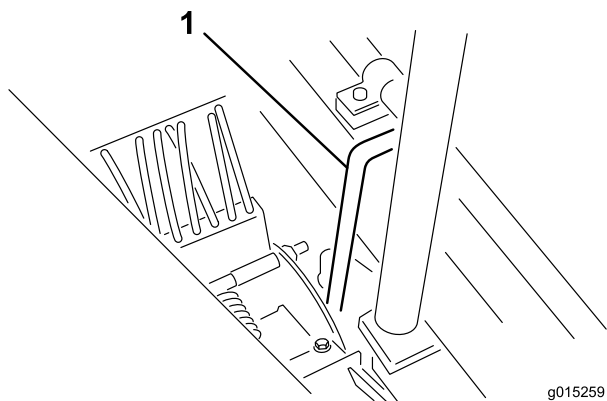

Figure 9
- Lift each end of the reel and remove the transport hooks before operating the machine (Figure 9).